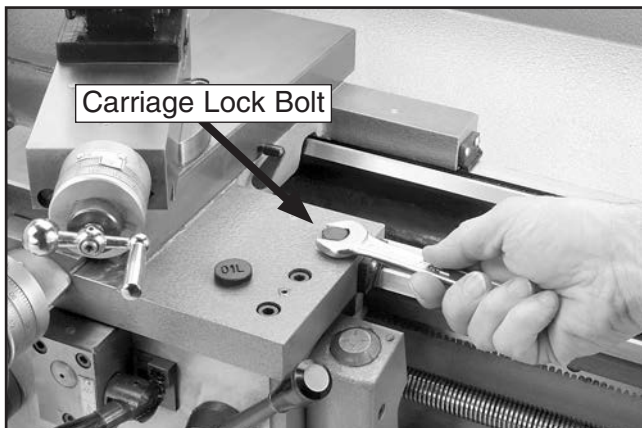

Figure 10. Loosening the carriage lock bolt.
6. Loosen the carriage lock bolt shown in **Figure 10**, then move the carriage to the far right of the bedway to balance the weight evenly along the length of the lathe.